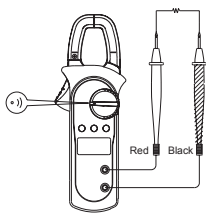

Figure 6
**D. Testing for Continuity** (See Figure 6)**Warning**